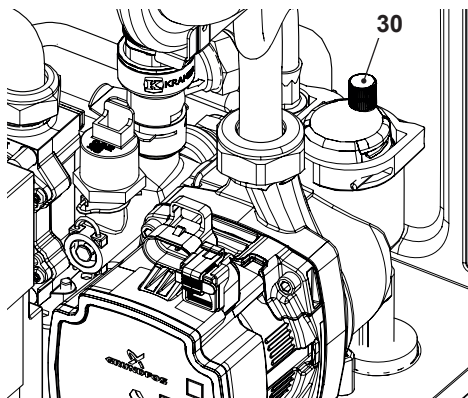

Fig. 10.12
- To make draining easier, lift the plug 30 of the automatic relief valve in Fig. 10.12.